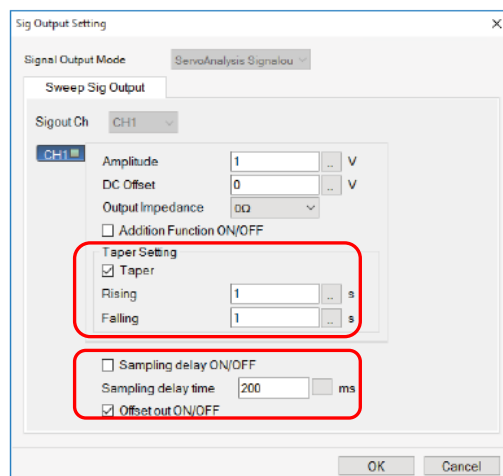

Figure 4: Signal output setting
- ③ Control Setting (Lin/Log): Lin (Select whether the set value is linear value or dB value.)
- ④ Control Mode (constant/ division): Constant (Set constant or division at the frequency band to be swept.)
- ⑤ Acceptable: 2% (Set how much tolerance is acceptable to the target value.)
- ⑥ Target: 10 m/s² (Set the target value to be controlled. Follow the setting method of above 3. Select 10 m/s² (approx. 1 G) in here. This value is half amplitude value (0-p value), so when you want to set rms value, input the value which multiplies $\sqrt{2}$ (1.414).
- ⑦ Divide number: 3 (Enabled when the control mode is set as division.)
- ⑧ Initial Voltage: 0.1 V (Select the initial output voltage value when start measurement. Recommend to set at a low voltage not to destroy the target object.)
7. Select signal output. Set in the following order as figure 4; [Input/ Output Setting] (menu) > [Signal Output Setting].